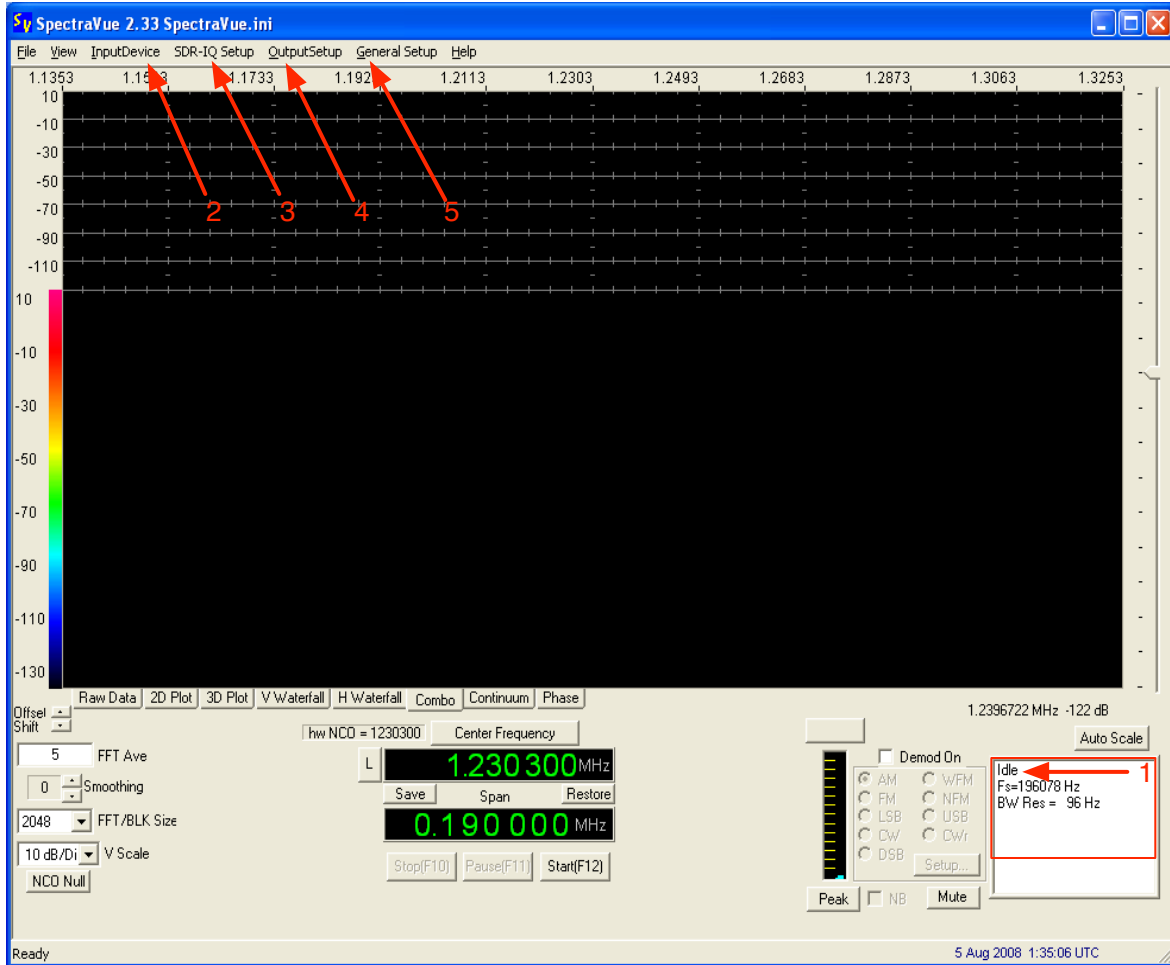
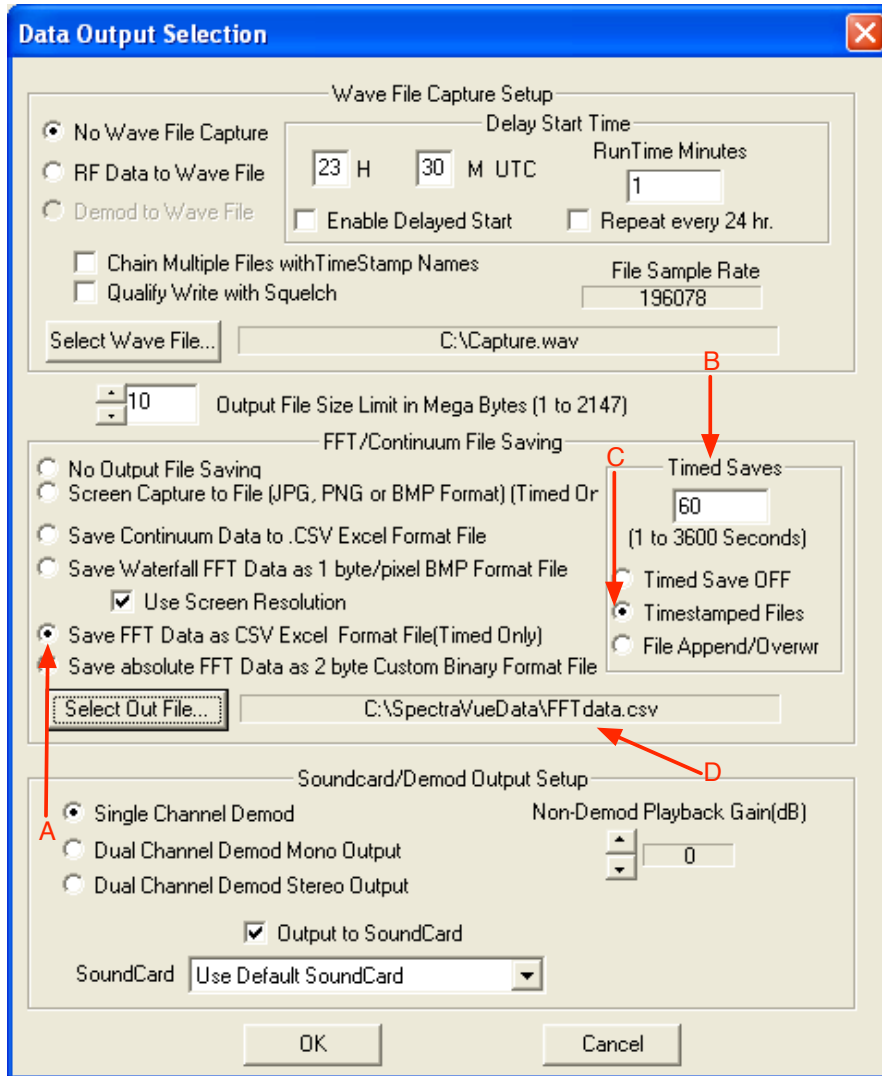
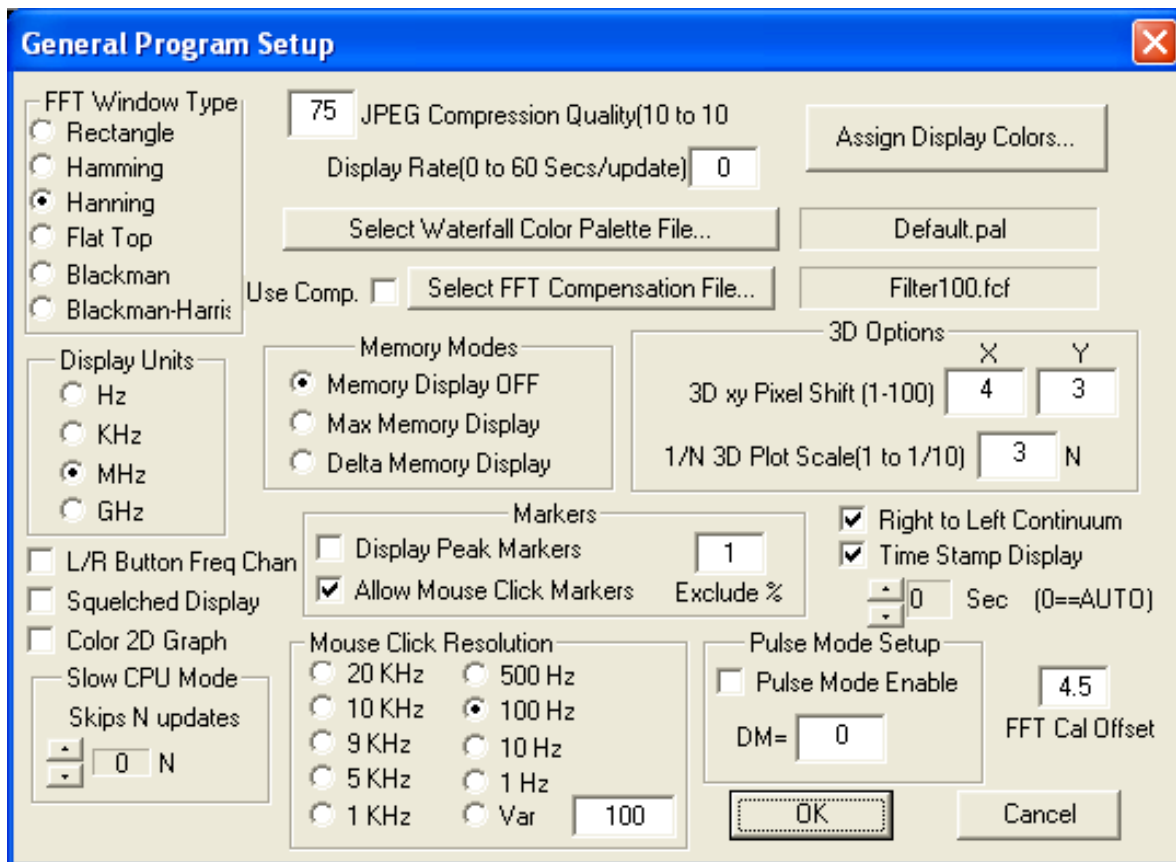

Fig 11: SpectraVue Setup
Fig 13: Output Setup
Fig 15: General Program Setup
- The data you need to send is described in Step 3.6 of Section 3 (also see Figures 13 and 14). These files will each be 60 seconds(1 minute) in length.
3.1. When you launch SpectraVue for first time, you will see the window as in Fig. 11.
- 3.2. Initially, SDR-IQ will be in idle mode as shown by arrow 1 in Fig 11.
- 3.3. The arrows in Fig 11 above, point to different setup menus that you will need to configure before using SpectraVue to collect data.
3.6. Select the “Output setup” menu shown by **arrow 4** in Fig 11. The window as shown in Fig. 13 on the next page will pop up. SpectraVue allows you to save different types of output formats like Wave File capture, Screen Capture images of the main window, waterfall FFT data and FFT Data as CSV Excel Format file.
Our goal is to capture as much data as we can, so the best option is to select FFT Data as CSV Excel Format File as shown in Fig 13 by arrow A.
- Enter 60 seconds in the box labelled “Timed Saves” as shown by **arrow B** in Fig. 13. This creates CSV files every 60 seconds(1 minute).
3.7. Select the “General Setup” menu shown by **arrow 5** as in Fig. 11. A window as shown in Fig. 15 below will pop up. Make sure that your settings match Fig 15.
- Use Left and Right mouse buttons to increment/decrement digit. (This mode was selected in "General Setup" Menu in Fig 15 in step 3.7 above.
Once you start this process, all the FFT data files with “.csv” extension will be collected at the location you chose and stored in Step 3.6 as in Figures 13 and 14. Files will be generated every 60 seconds(1 minute). Also make sure that the files are getting stored at the correct location, that you selected earlier.